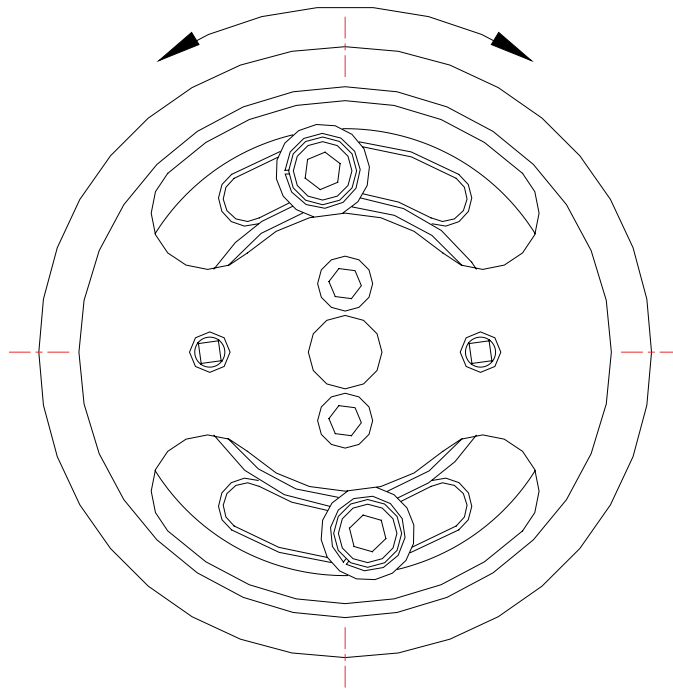

Figure 3-8: Microsyn Field Coil Assembly Rotation
11. Loosen, but do not remove the Microsyn field coil assembly mounting screws as shown in Figure 3-8.
12. Rotate the Microsyn field coil assembly, as shown in Figure 3-8, until $0 \pm .2$ VDC is observed on the DVM. Tighten the mounting screws.